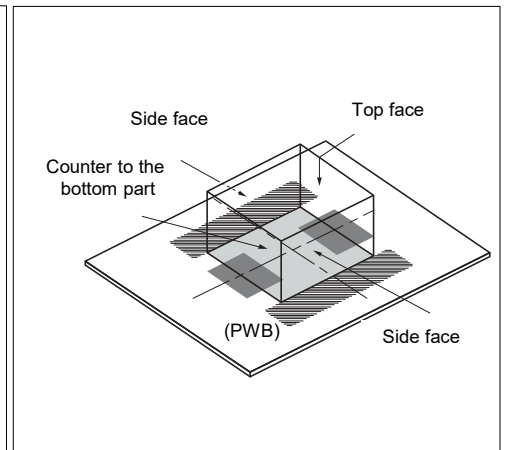

Fig.3
- Keep a component placed around the inductor from being in contact with the surface (top face, side face) of the inductor. (MC series/\* Fig. 3)